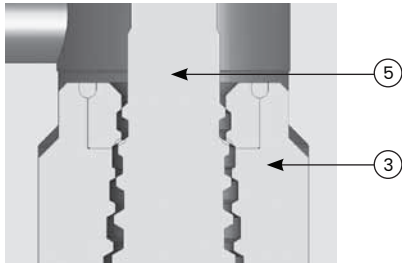

Figure 1: Plug and Seat Surfaces
The seat ring (3) and plug stem (5) seating surfaces shown in Figure 1 must be completely free of dents, scratches, wear, or other visual damage. If the valve demonstrates excessive leakage or shows signs of deterioration on the seating surfaces the parts may be refurbished in accordance with the following guidelines.